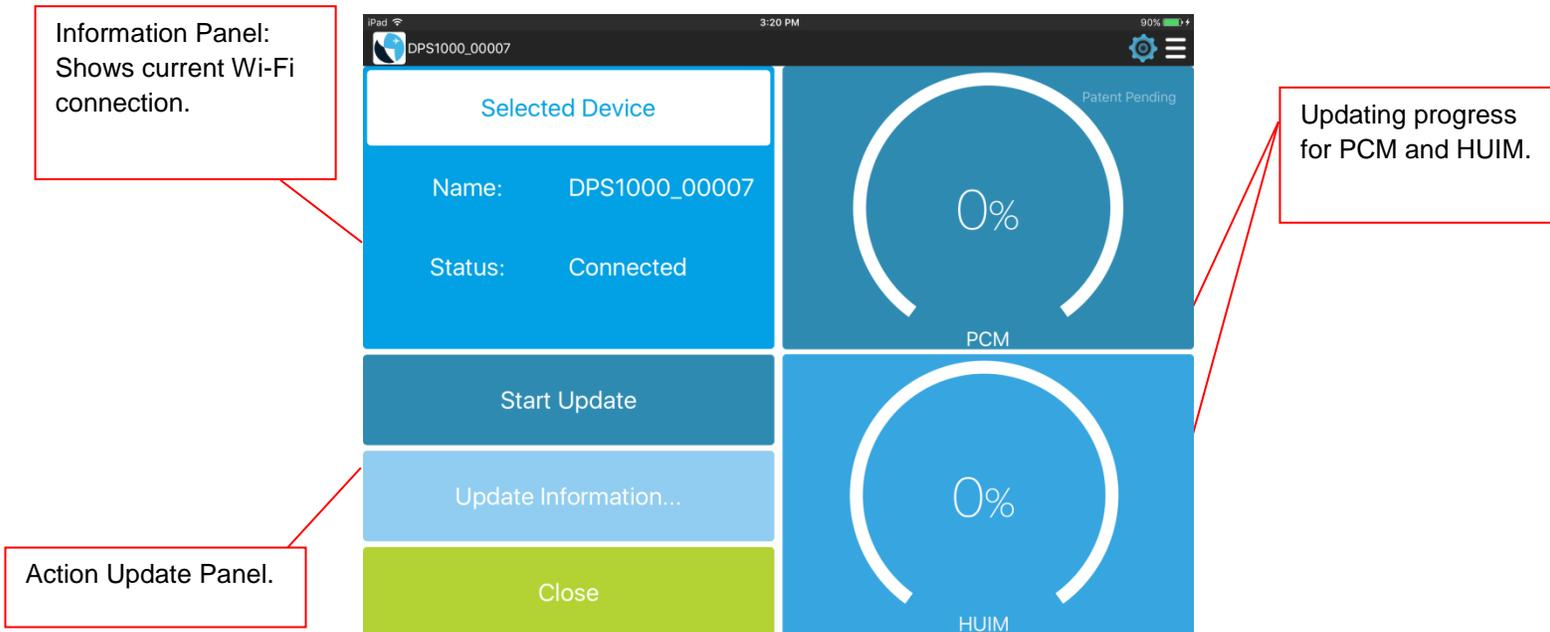

Figure 2.3 PCM and HUIM Update Screen
b) The new screen shows the update process for the HUIM and the PCM (Figure 2.3).